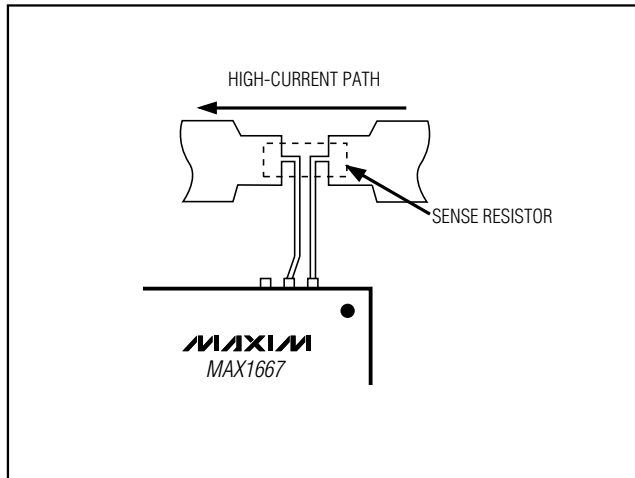

Figure 12. Kelvin Connections for the Current-Sense Resistors
- *Minimize current-sense resistor trace lengths* and ensure accurate current sensing with Kelvin connections (Figure 12).